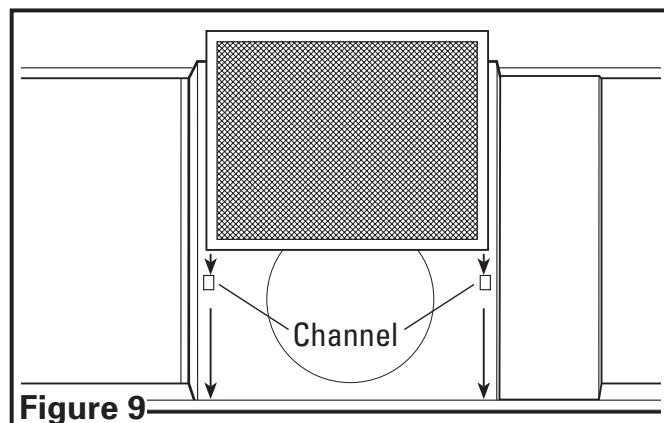

Figure 9
- Install the filter by fitting the filter into the channel on the hood and sliding it back until it stops against the back of the hood (**Figure 9**).